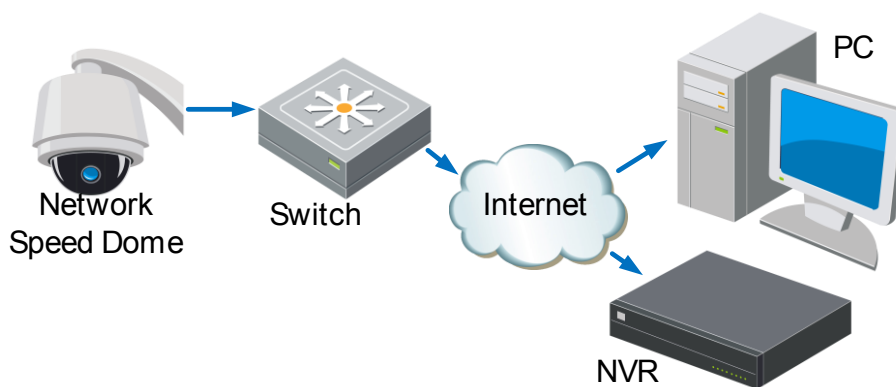

Figure 2-2 Connect via a Switch or a Router
- Refer to the Figure 2-2 to set the network device over the LAN via a switch or a router.